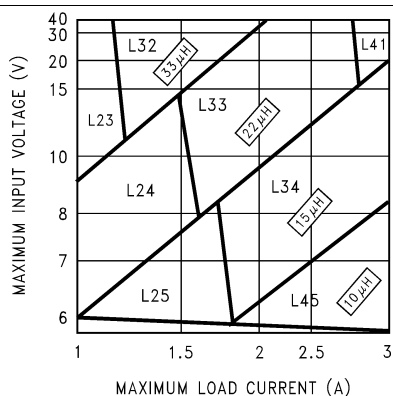
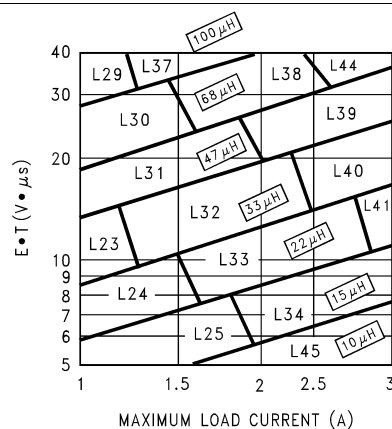

Figure 17. LM2676-3.3
Figure 20. LM2676-ADJ
Step 3: Determine the inductor required by using one of the four nomographs, Figure 17 through Figure 20. Table 3 provides a specific manufacturer and part number for the inductor.
Step 5: Determine an input capacitor from Table 7 or Table 8 for fixed output voltage applications. Use Table 1 or Table 2 to find the specific capacitor type. For adjustable output circuits select a capacitor from Table 1 or Table 2 with a sufficient working voltage (WV) rating greater than $V_{IN\ max}$, and an RMS current rating greater than one-half the maximum load current (2 or more capacitors in parallel may be required).
Step 3: Use the nomograph for the 3.3-V device, Figure 17. The intersection of the 16 V horizontal line ($V_{IN} \text{ max}$) and the 2.5 A vertical line ($I_{LOAD} \text{ max}$) indicates that L33, a 22- μH inductor, is required.